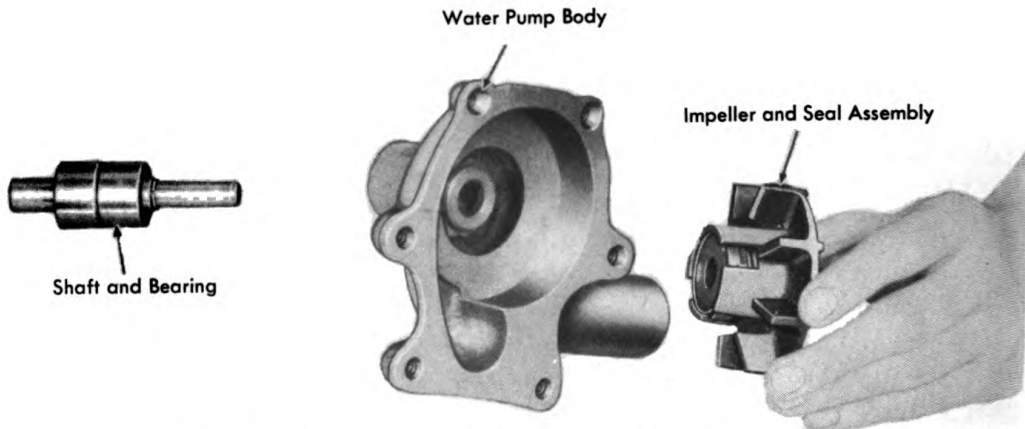

Figure 276. Removing Shaft, Impeller and Seal Assembly.
3. Press the shaft out of the impeller and body with the arbor press and remove the impeller and seal assembly. See Figure 276.